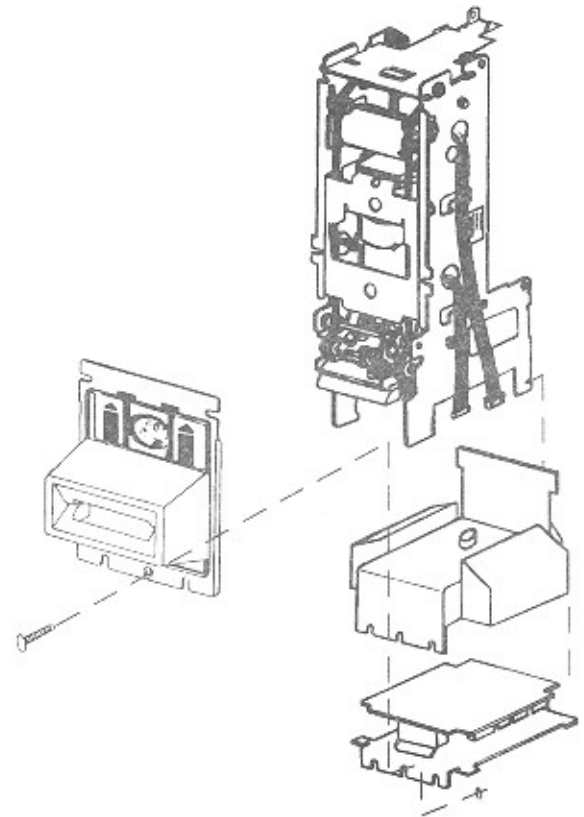

Figure 4-8. Removing the Bill Inlet
1. Remove the countersunk screw that holds the inlet on the front of the transport (See *Figure 4-8*).
2. Re-install the logic board, reconnect the wiring harnesses, and re-install the inlet (See *Figure 4-8*).